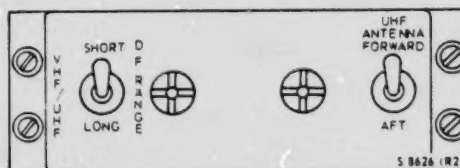

Figure 6-17. - UHF switch panel.
The ICS circuits for the pilot, copilot, avionicsman, and crewman are powered by the DC primary bus. The forward and aft exterior ICS receptacles are on the crewman's ICS circuit (figure 6-17). When the aft external ICS receptacle is in use, the
The antenna selector switch, marked FORWARD and AFT, is on the UHF ANTENNA switch panel (figure 6-17) located on the center console.
2. Antenna Switch (UHF ANTENNA Switch Panel) - AS REQUIRED. (See figure 6-17.)